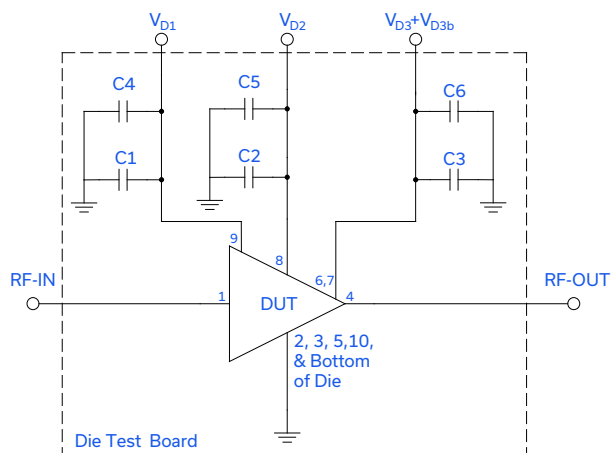

Figure 3. PMA4-8243LN-D+ Characterization and Application Circuit
1. Tested on Mini-Circuits Characterization Die Test board. See Figure 3. Characterization performed with direct GSG probe to the RF input and output.
Note: The following data was taken on the Mini-Circuits Die Characterization 8-24 GHz test board (Figure 3).
Refer to the table in Figure 3. for more details on the passive components